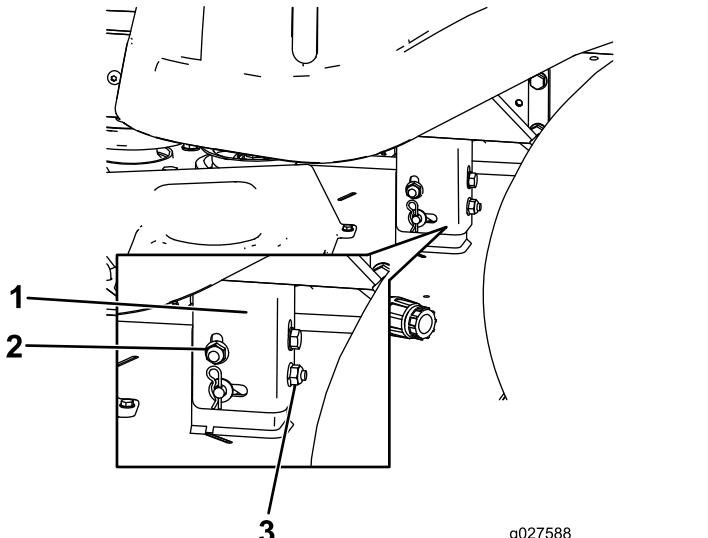

Figure 59
- Raise or lower the left side of the mower deck by rotating the rear locking nut (Figure 59).
Note: Rotate the rear locking nut clockwise to raise the mower deck; rotate the rear locking nut counter-clockwise to lower the mower deck (Figure 59).